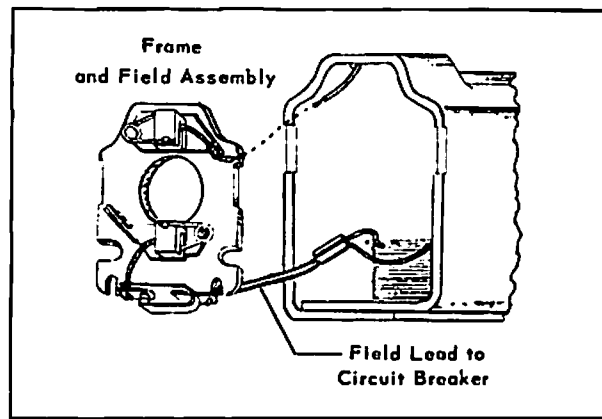

Figure 3-24
7. To separate brush plate from frame and field assembly, unsolder the field lead that attaches to the circuit breaker terminal. (Figure 3-24)